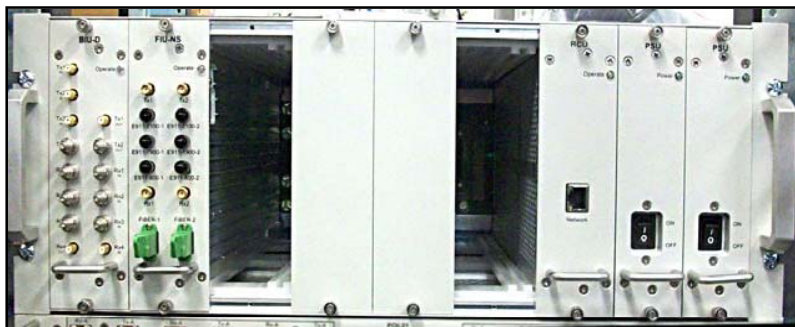

Figure 4-18. BIU and FIU modules
2. Slide the BIU and FIU modules in to each separate designated module slot, **Figure 4-18**.